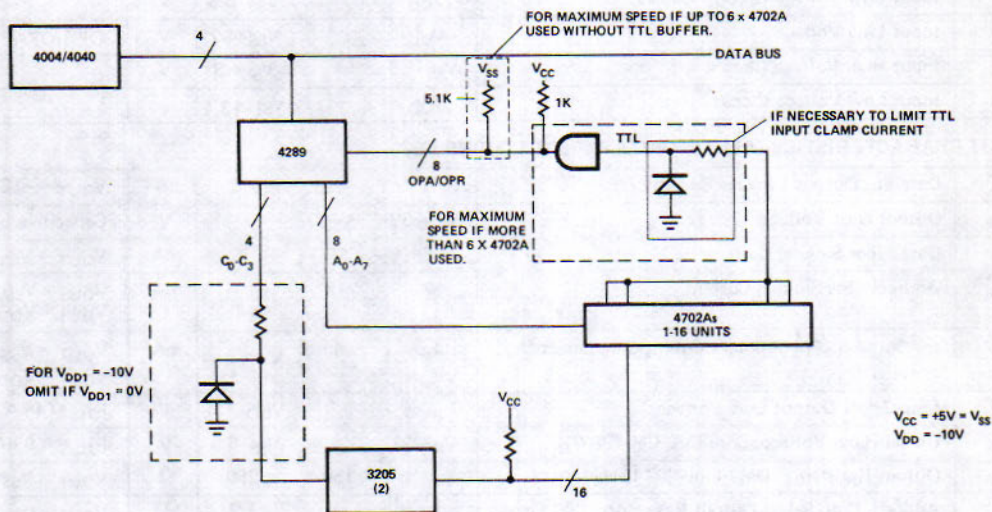

Figure 4. 4289 and 4702A Block Diagram.
- When utilizing the 4289 with more than six 4702As, a TTL buffer as shown in Figure 4 should be inserted in series with the OPR, OPA lines to achieve maximum clock rate. The buffer may be inverting or non-inverting.